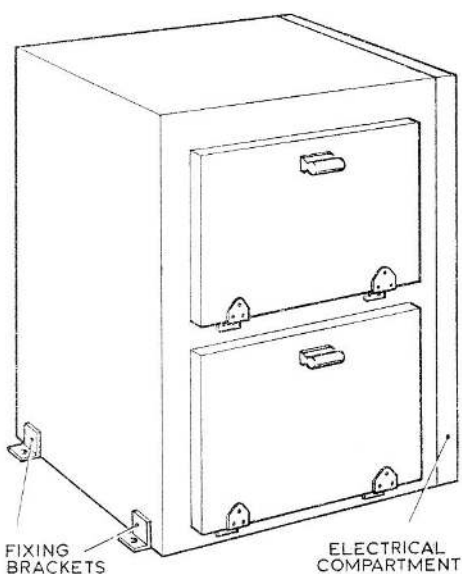

Fig. 1. General view of hot-cupboard
2. A general view of the Hot-cupboard is given in fig. 1. It is constructed throughout in 20 gauge aluminium and consists of an outer casing, part of which forms the